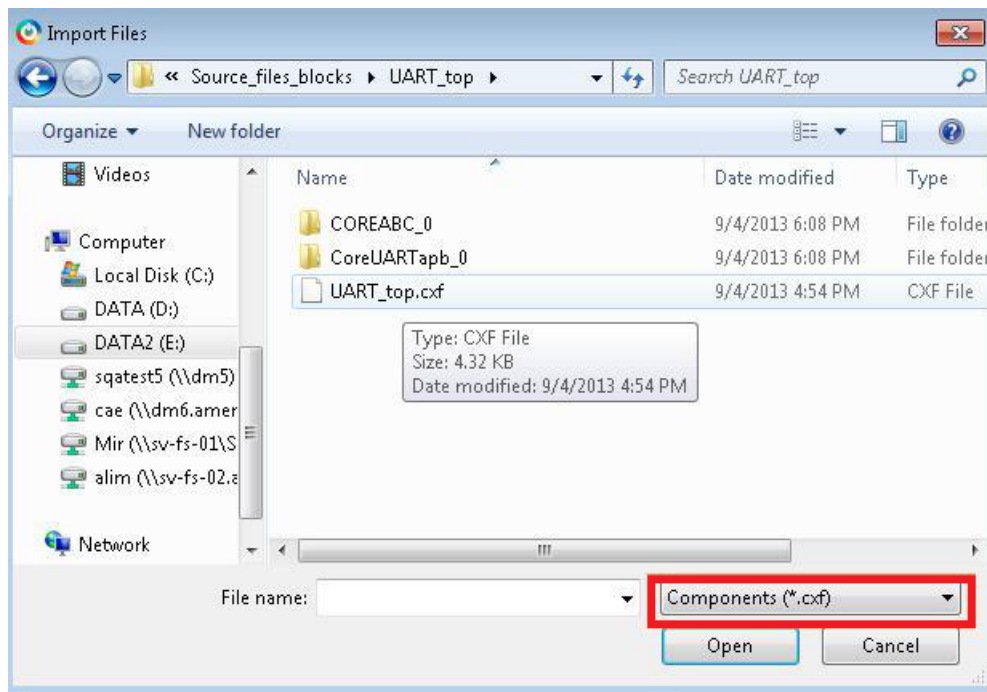

Figure 26 Importing the Files Component Dialog Box
38. Browse to **C:\Coresysssvc_lab\Source_files_blocks\UART_top** folder and select **UART_top.cxf**. Click **Open** to import UART_top SmartDesign block, as shown in Figure 26.